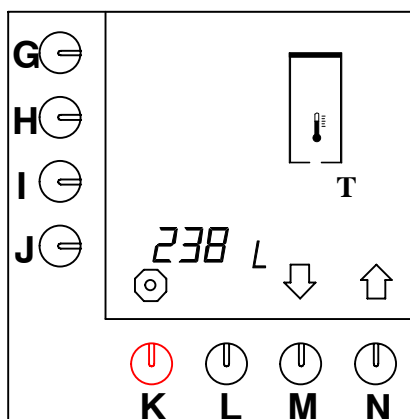

Fig. 49 Total counter hot water system
- Press selection key (N.)↑ until fig.49 appears on the display.